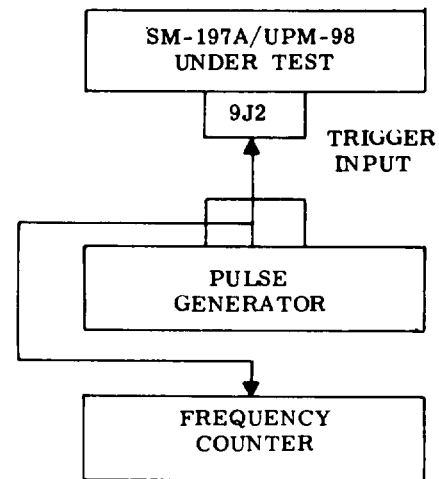

Figure 5-11. Calibration-Control Unit Pulse Counter Test Setup
Step 2. Connect test equipment as shown in figure 5-11. Set METER SELECT switch 9S3 to 500 PRF position. Set TRIGGER Selector 9S1 to EXT position. Set pulse triggering rate of pulse generator to 500 prf. If necessary, adjust 0-500 PRF control 9R30 for an indication of 500 on the meter.